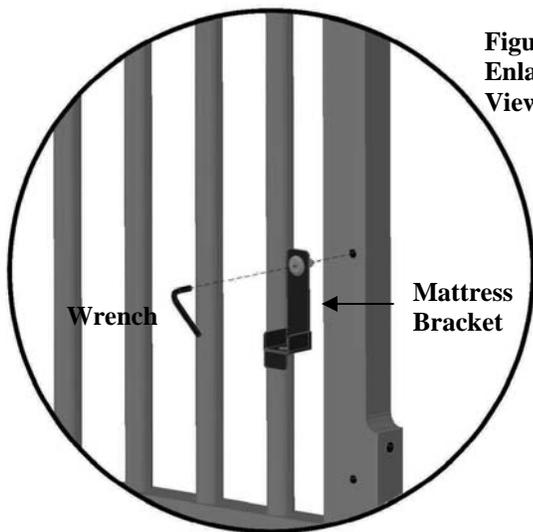

Figure 2. Enlarged View
- Attach the (4) brackets and tighten bolts using the wrench provided. See Figure 2.